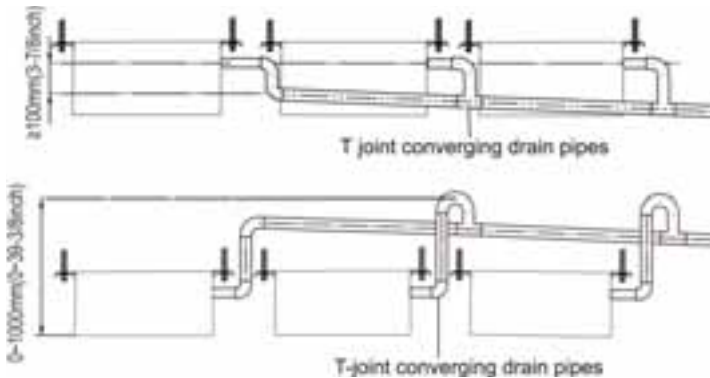

Fig. 4.30
- When multiple drain hoses are used, they should be installed as shown in Fig. 4.30.